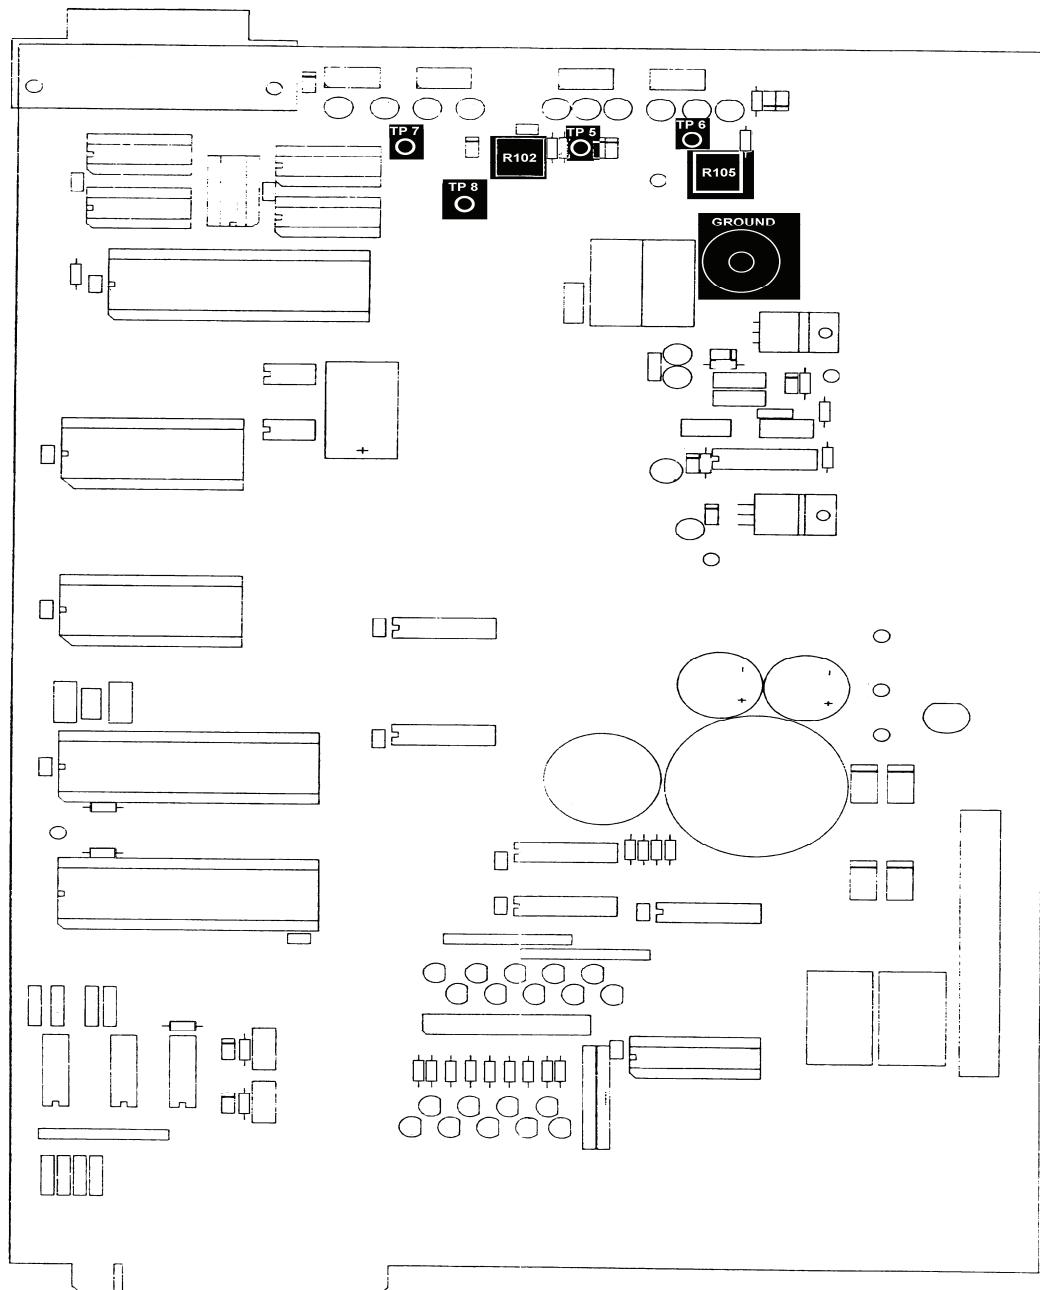

Figure 2. Microprocessor card.
q. While switching the **INPUT GAIN(db) ▽ Δ** controls between **20** and **00**, adjust R105 (fig. 2) for no change ± 1 mVdc.